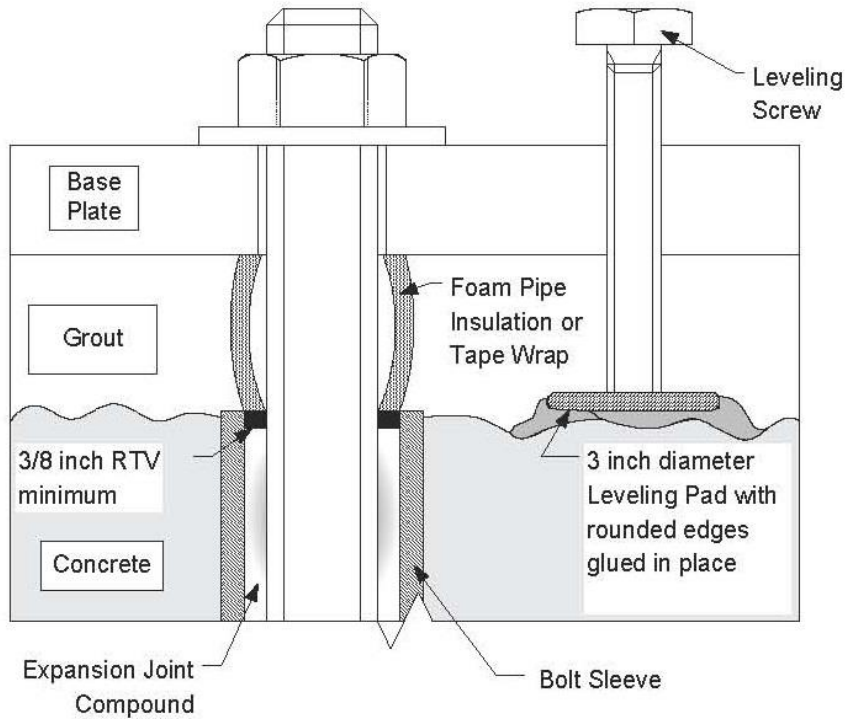
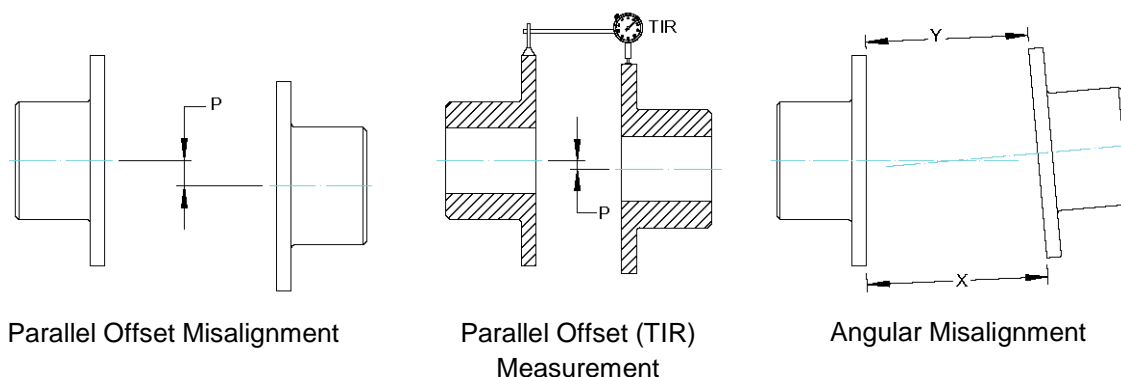

Figure 5. Grouting and Foundation Bolting
Figure 7. Coupling Alignment
Hydraulic Institute (HI) recommends a foundation capable of absorbing vibration at least five times the weight of the pumping unit and to form a permanent, rigid support for the base plate. Consequently, maintaining the pump to driver alignment is important for a flexible coupled unit, refer to Figure 7. A concrete foundation on a solid base is recommended. Use foundation bolts of the proper size embedded into the concrete. A pipe sleeve larger in diameter than the bolt should be used. This allows movement for final positioning of the bolts. Refer to Figure 5, Grouting and Foundation Bolting.
The base should be supported on either rectangular metal blocks with shims or on metal wedges having a small taper. The support pieces should be placed close to the foundation bolts. Refer to Figure 5, Grouting and Foundation Bolting. Place supports directly under the part of the base, which carries the greatest weight. Space the supports closely enough to provide uniform support of the base. Adjust the metal supports or wedges until the shaft is level. Check suction and discharge flanges of the pump by means of a level. Make corrections, as necessary, by adjusting the supports or wedges under the base.
2. The “Parallel Misalignment” value (P) is the offset between the centers of the hubs, as shown in Figure 7.
3. When the Parallel Offset is measured by rotating the hubs in unison with dial indicators as shown in Figure 7, the Total Indicator Reading (TIR) should be divided by (2) to calculate (P).
5. The “Angular Misalignment” value is the maximum difference between the measurements X and Y taken at opposite ends of the hub flanges, as shown in Figure 7.